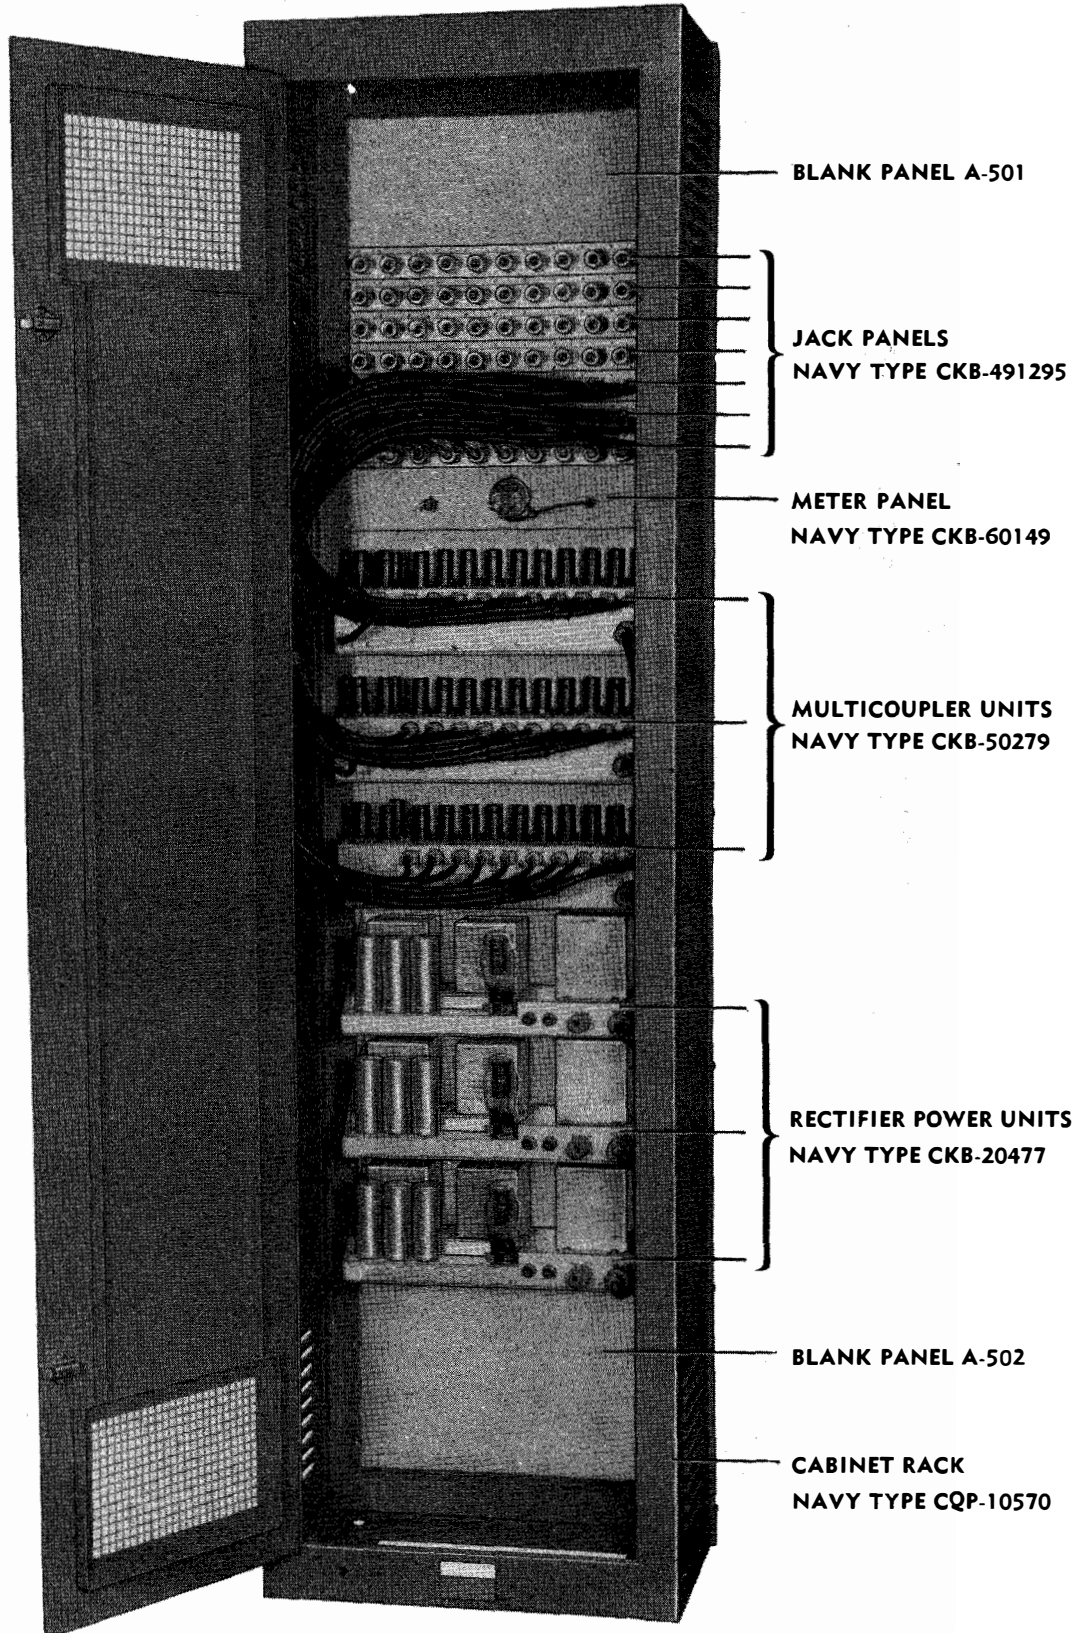

Figure 3-3. Model RXA Antenna Multicoupler Assembly, Rear View with Door Open
a. The replacement of vacuum tubes requires access to the rear of the rectifier power and multicoupler units. To gain access to the chassis of either of these units, pull the snap-action catches on the door at the rear of the cabinet rack. (See figure 3-3.)